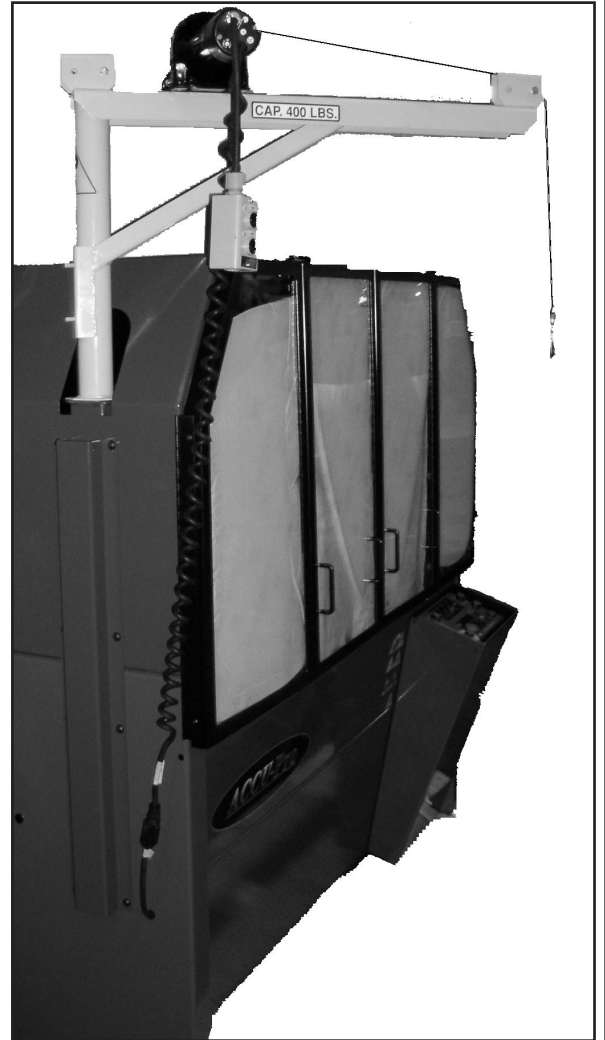

FIG. 3
4. Install the Electric Winch Assembly onto the Boom with B371211 3/8-16 x 3/4 Socket Head Cap Screw (2) and J377100 3/8-16 Lock Nut. Note the motor position in FIG. 3.